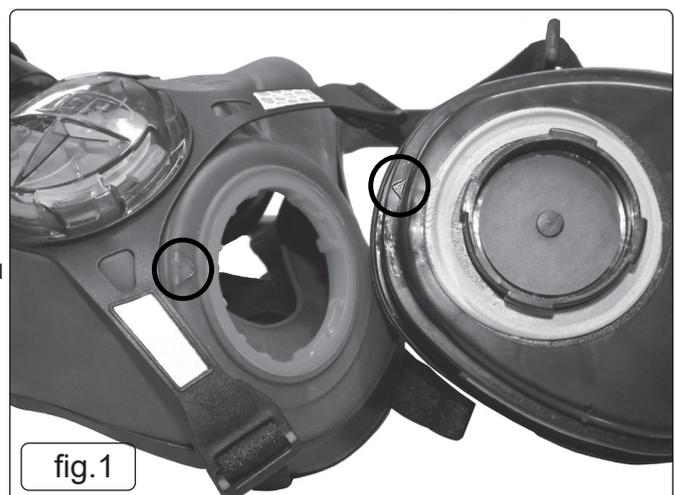

fig.1
- 4.1.1. Align the arrows (fig.1), press and twist the filter to the right until it clicks.